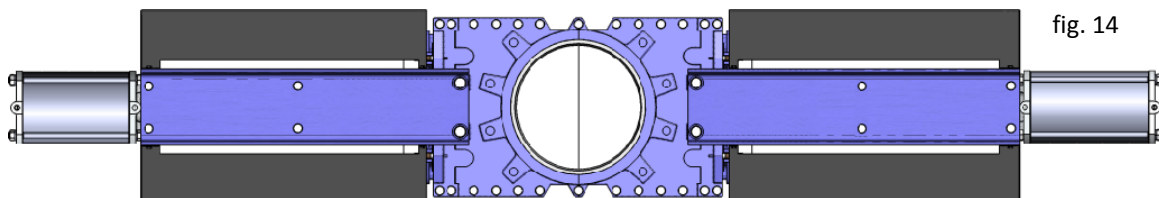

fig. 14
**3 -Extended support plates:** This type of extension is common when a small extension is required. It is done by extending the support plates, inserting an intermediate bridge if necessary due to the increased length of the plates. (fig.14).